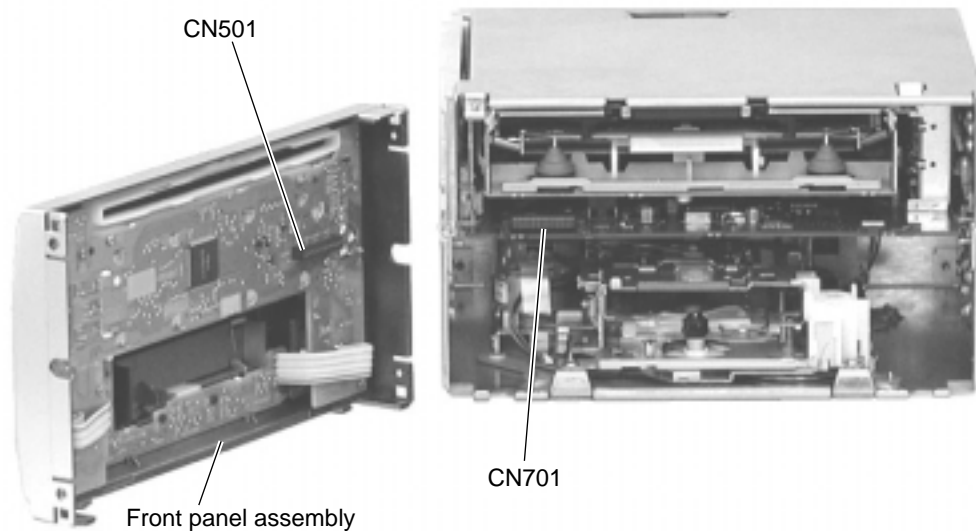

Fig.3
**CAUTION:** When reassembling, make sure that connector CN501 on the front panel assembly is securely connected to CN701 on the main board (See Fig.3).